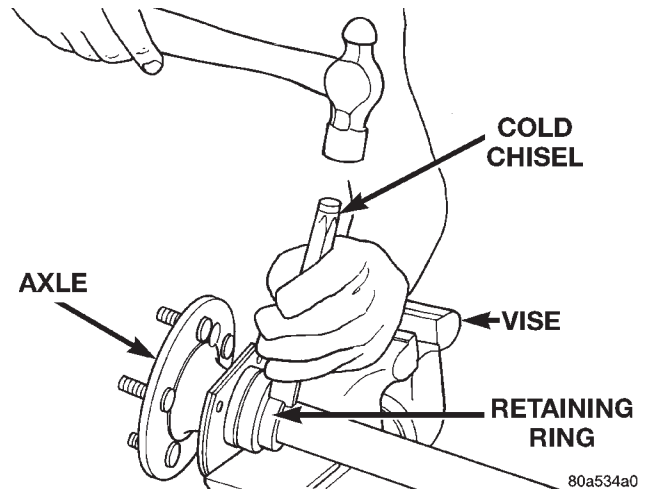

Fig. 13 Cut Retaining Ring
- (3) Using a suitable cold chisel, cut retaining ring across drilled hole (Fig. 13).
- (4) Slide retaining ring from axle shaft.